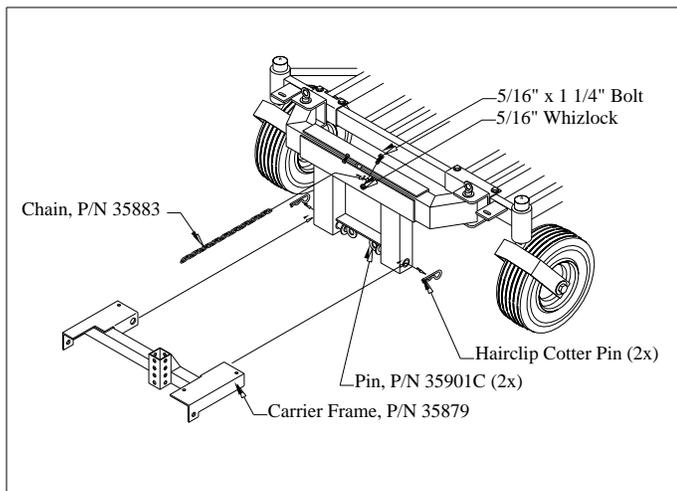

Fig. 3
3. Slide carrier frame (3) onto bottom of lower half of blade mount (2) as shown and secure by sliding the two pins (7) through the holes in the carrier frame and securing with hairpin cotter provided. Slip 5/16" x 1 1/4" bolt through the hole position on top of brackets just left of center (as sitting on tractor) slip end link of chain (8) onto bottom of bolt and secure with 5/16" whizlock nut. **FIG. 3**